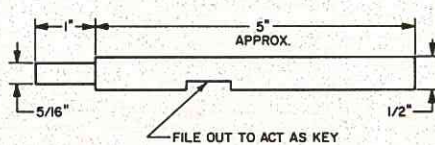

FIGURE 2
b) Make a chucking-shaft from a piece of ½" dia. metal — see Fig. 2.